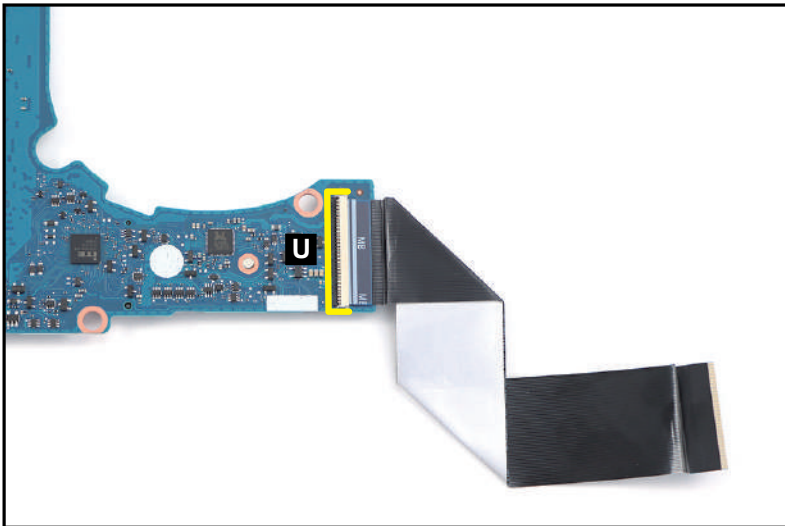

Figure 3-68. Mainboard Removal
17. Disconnect the other end of the USB board FFC from the mainboard connector (U) (Figure 3-68). Remove the FFC.